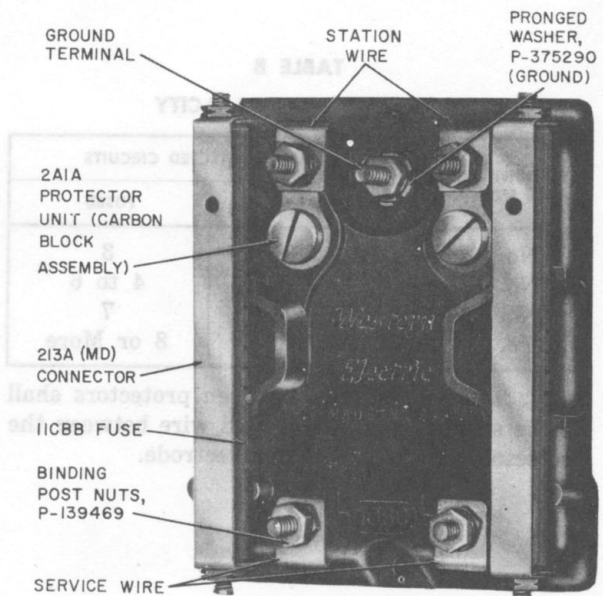

Fig. 7—106CA (MD) Protector
2.04 The 106CA (MD) protector (Fig. 7) is a 106C fused protector for one pair of wires, converted for fuseless operation by strapping out the 11CBB fuses with No. 213A (MD) connectors. It is not